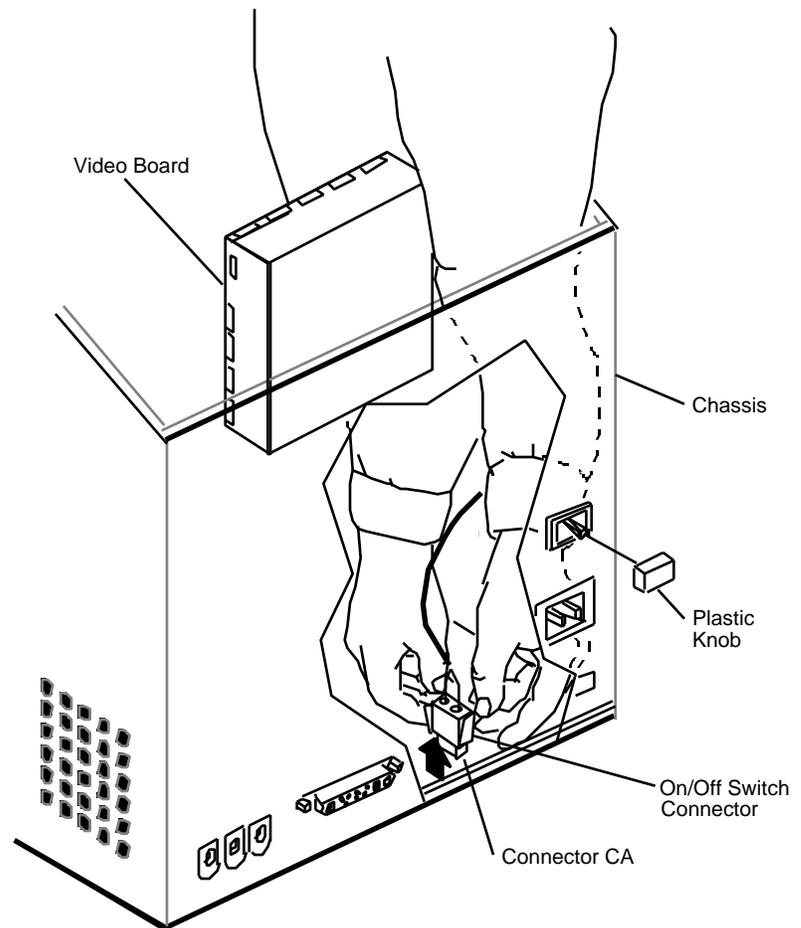

FIGURE 14
3. Pull the plastic knob off the on/off switch (**Figure 14**).
4. Disconnect the 2-wire, on/off switch connector (Figure 14) from the connector labelled CA on the main deflection board. (Suggestion: To remove the on/off switch connector, insert your right hand around and beneath the video board as shown in Figure 14, and insert your left hand between the video board and the rear of the chassis. Be sure to release the tabs on the sides of the connector.)